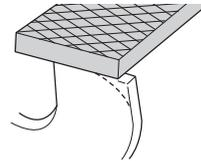

Fig. 44
- 4) Round off front corner to maintain original shape of depth gauge after using depth gauge tool. Always follow the recommended depth gauge setting found in the maintenance or operator manual for your chain saw. (Fig. 44)